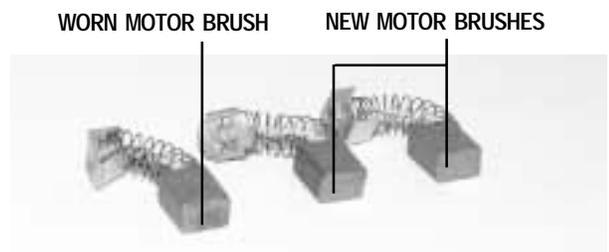

Figure 23. Motor Brushes
4. Inspect for wear. See figure 23.